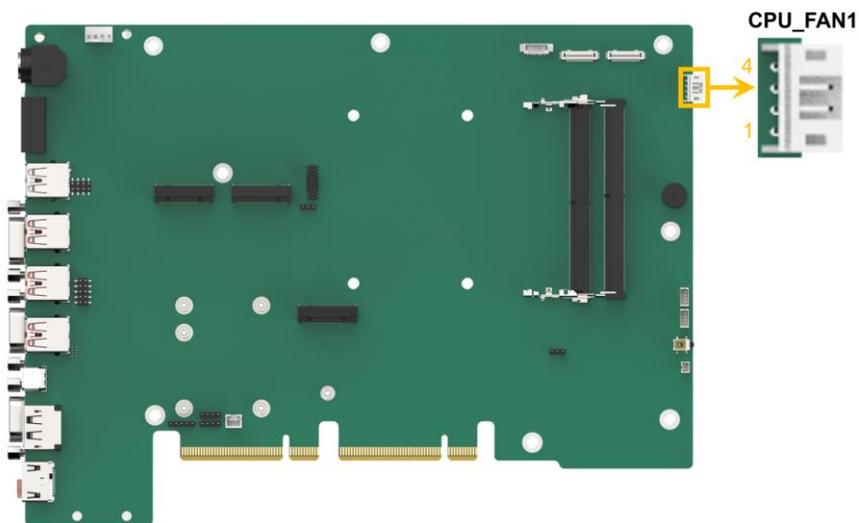

Figure 4-9: CPU Fan Connector Location
- CN Location:** See Figure 4-9